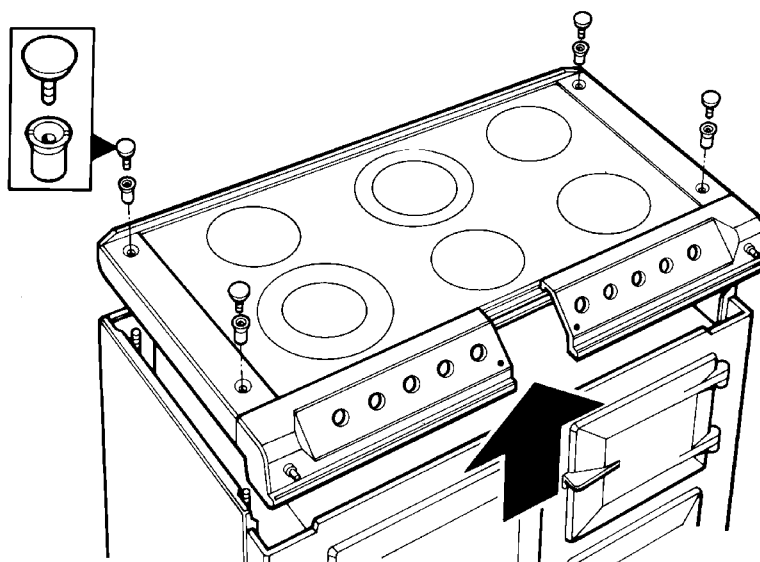

Fig. 21
2. Pull off the control knobs. (See Fig. 21).